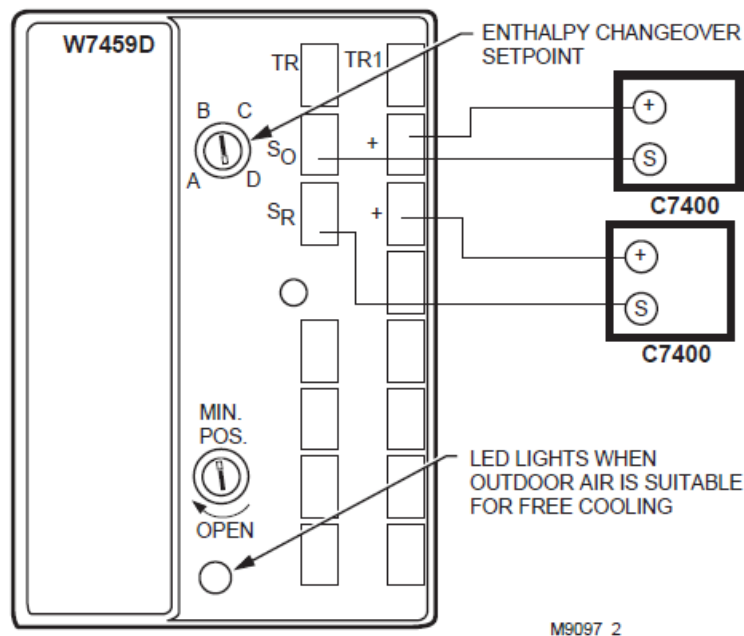

**Figure 3. Control module before installation**
5. Connect wire 56A to S and 50A(YL) to + terminals on the Enthalpy Sensor.
6. On the Control Module (Solid State Economizer Logic Module) attached to the Economizer Motor, remove the red resistor from terminals SR and + and discard. See Figure 3.
5. Connect wire 56A to S and 50A(YL) to + terminal on the Enthalpy sensor.
6. Remove the filter access panel on the return side of the unit reach into the Control Module attached to the Economizer Motor, remove the red resistor from terminals SR and + and discard. See Figure 3.